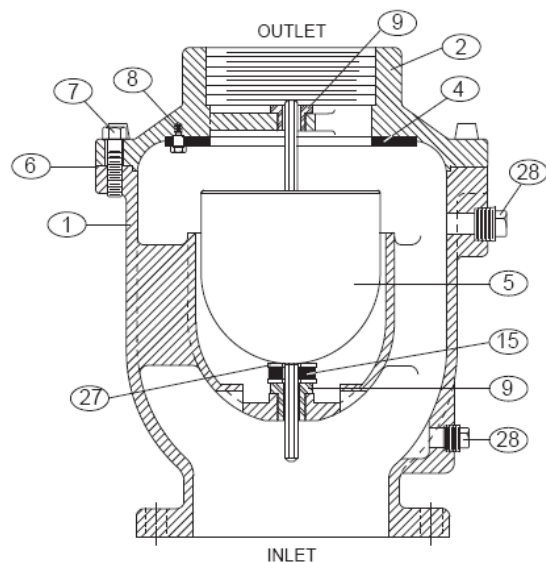

Figure 2. 4"-20" Air/Vacuum Valve
The standard Air/Vacuum Valve body and cover are cast iron. See specific Materials List submitted for the order if other than standard cast iron construction. The internal metal components are stainless steel. The float (5) is the only moving part assuring long life with minimal maintenance. The general details of construction are illustrated in Figure 2. The body (1) is flanged for connection to the pipeline. The resilient seat (4) is retained in the cast cover (2). An optional hood is available.
The valve can be disassembled without removing it from the pipeline. Or for convenience, the valve can be removed from the line. All work on the valve should be performed by a skilled mechanic with proper tools. Refer to Figure 2.